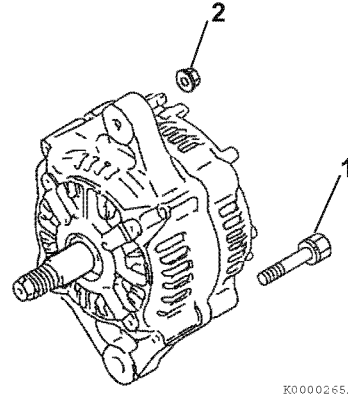

Figure 12-8
- Remove the two bolts (Figure 12-8, (1)) and two nuts (Figure 12-8, (2)) securing the rear frame housing to the front frame housing.